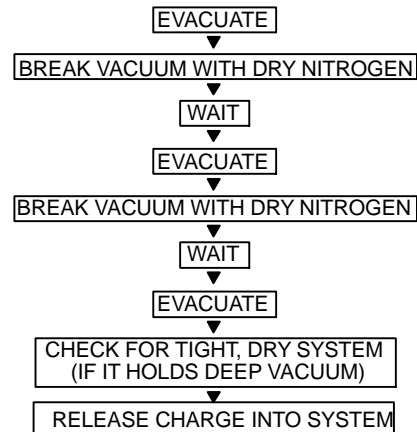

Fig. 16 – Triple Evacuation Method
Refer to Fig. 16 and proceed as follows:
5. Repeat this procedure as indicated in Fig. 16. The system will then be free of any contaminants and water vapor.